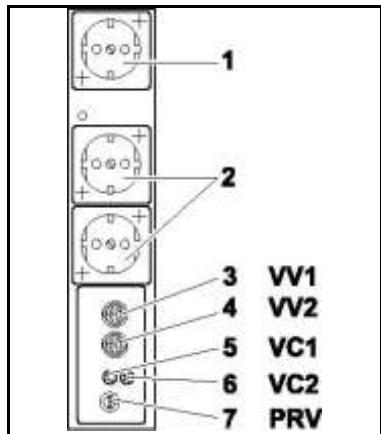

Fig. 10: Connections of the electrical supply unit
1. Connect signal socket of the vacuum controller with the electrical supply unit socket marked VC 1 (fig. 10/5) using the connection cable.
2. When using two vacuum controllers, connect the second vacuum controller's signal socket to the electrical supply unit's VC2 connection (6).
3. Insert the vacuum controller power cord plug into the designated electrical supply unit socket (2).
4. When using two vacuum controllers, insert the vacuum valves' plugs into the electrical supply unit's VV1 (3) und VV2 (4) connections.
5. Insert the pump vent valve plug into the electrical supply unit socket marked PRV (7).
6. Insert the vacuum pump power cord plug into the designated electrical supply unit socket (1).
2. Insert the coolant valve's plug into the vacuum controller's VV1 socket (see fig. 10/3).